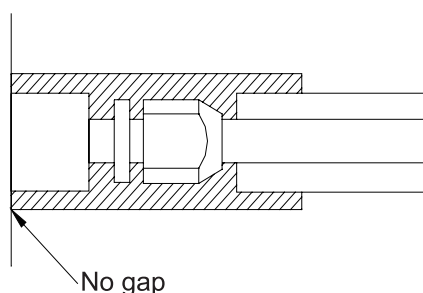

Figure 3-1-6
• The joint connecting to the indoor unit must be wrapped by thermal insulation material. There shall be no gap between the connecting pipe joint and the wall of the indoor unit. Refer to Figure 3-1-6.